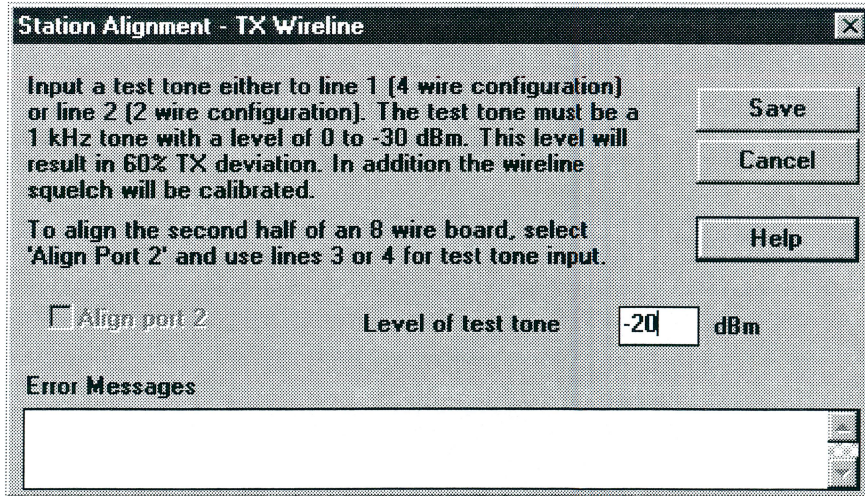

Fig. 10
4. After you click **TX Wireline** a window as shown in Fig. 10 will appear. With the Transmission Test Set in the generate mode, type -20 in the box for the **Level of test tone** and click on **Save**. The station will immediately auto-calibrate, temporarily store the value and then return you to the **Station Alignment** window.